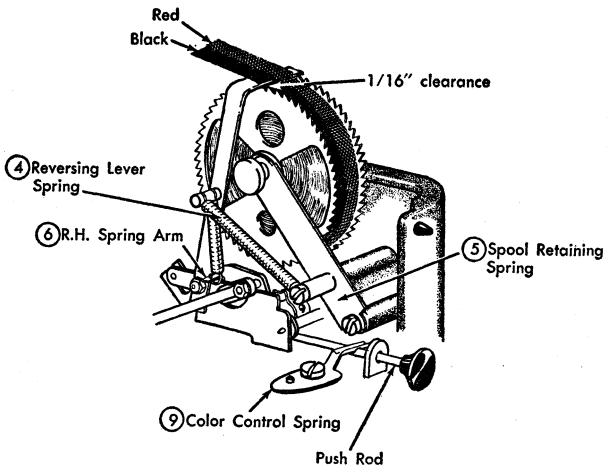

Figure 43. Ribbon Reverse Lever Adjustment
4. REVERSE LEVER SPRINGS must be just strong enough to keep the reverse levers in their normal position, when the ribbon feed mechanism is operated (Figure 43).
5. RIBBON SPOOL TEETH should contact the middle of the feed and check pawls. Obtain this position by moving the spool retaining springs up and down, after first loosening their mounting screws. The retaining spring should also have sufficient pressure against the side of the spool to prevent the ribbon's becoming so loosely wound on the spools that the reverse operation is sluggish (Figure 43).
6. RIBBON REVERSE LEVERS must clear the ribbon spool teeth by about $\frac{1}{16}$ ". Their position can be adjusted by forming the lug of the spring arm against which they rest (Figure 43).
9. THE COLOR CONTROL SPRING should be adjusted to obtain the stencil position. In machines above serial number 56770, engage the spring in the "V" groove of the push rod. Position the spring so that the ribbon will not lift during typing (Figure 43). This will place a roller directly over a vertical slot in the ribbon lift control plate. In machines below serial number 56770, repeat the above procedure with the color control spring engaging the center of three pointed projections on the push rod.